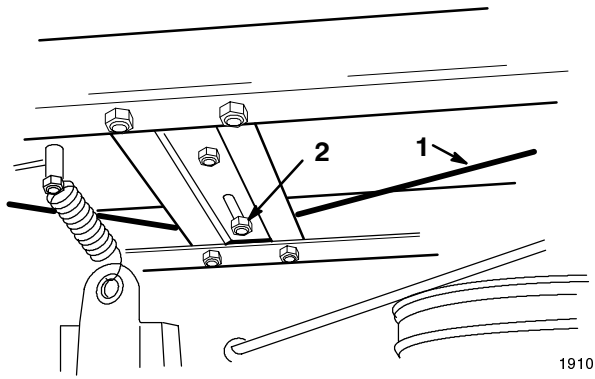

Figure 7
2. Check the cable tension. Cable should be taught and have 1/2 inch movement with slight pressure applied (Fig. 7).
4. To adjust the cable tension loosen the front cable guide, located on tractor brace above deck pulley. Slide guide sideways as required for proper tension (Fig. 7).